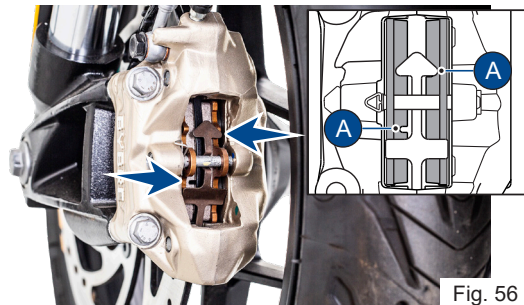

Fig. 56
- If the wear is found beyond the wear indicator (A & B) groove as shown in the figure in any one of the pad, replace brake pads as a set with a new one (ref. Fig. 56 & 57).